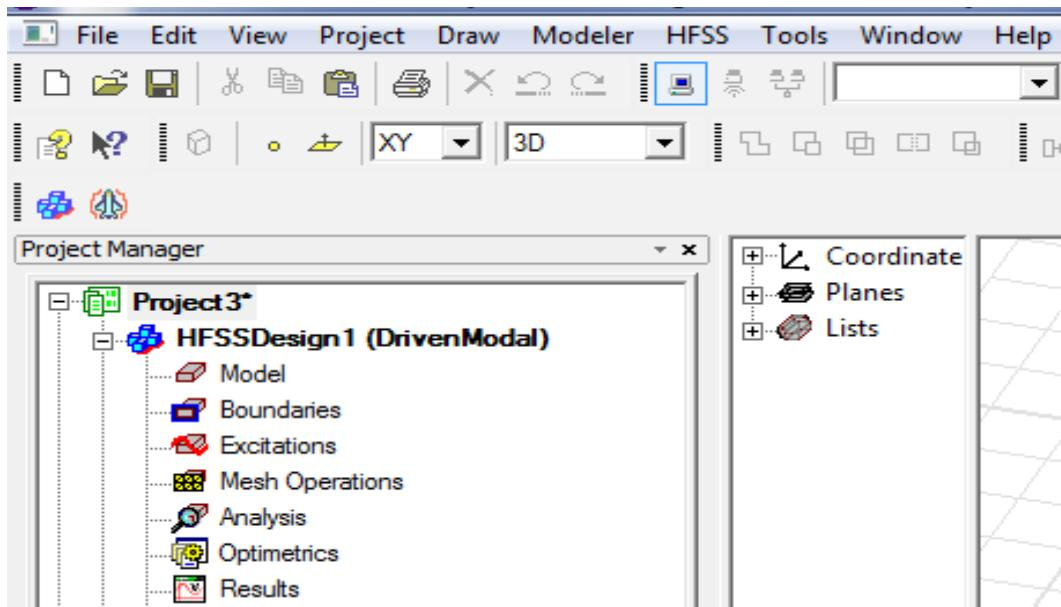

Figure 5. HFSS Designn included
- 3** Verify whether the **Assignment Options** are checked. See Figure 5.